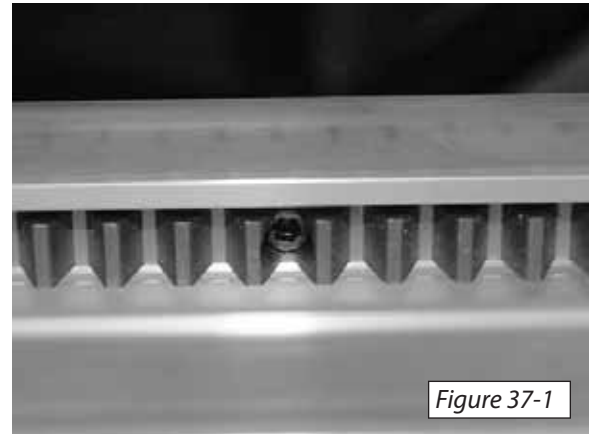

Figure 37-1
2. Loosen all of the screws in the gear rack using the 9/64" hex wrench included with the lift [Figure 37-1]. (Do not remove the screws)